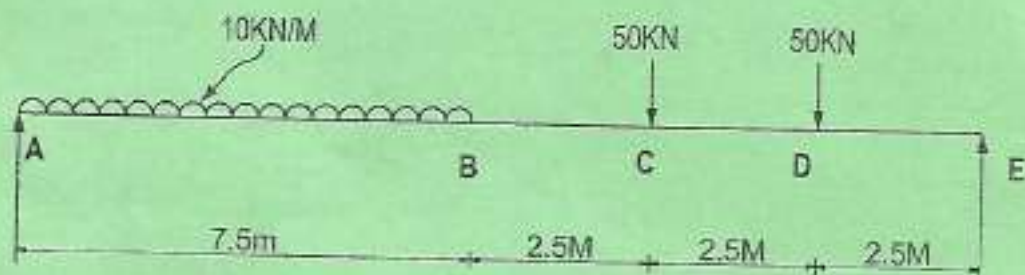

FIGURE 4
5. (a) Using Macaulay's method, determine the slope and deflection at points B and C in terms of  $EI$  in the beam shown in figure 4. (10 marks)